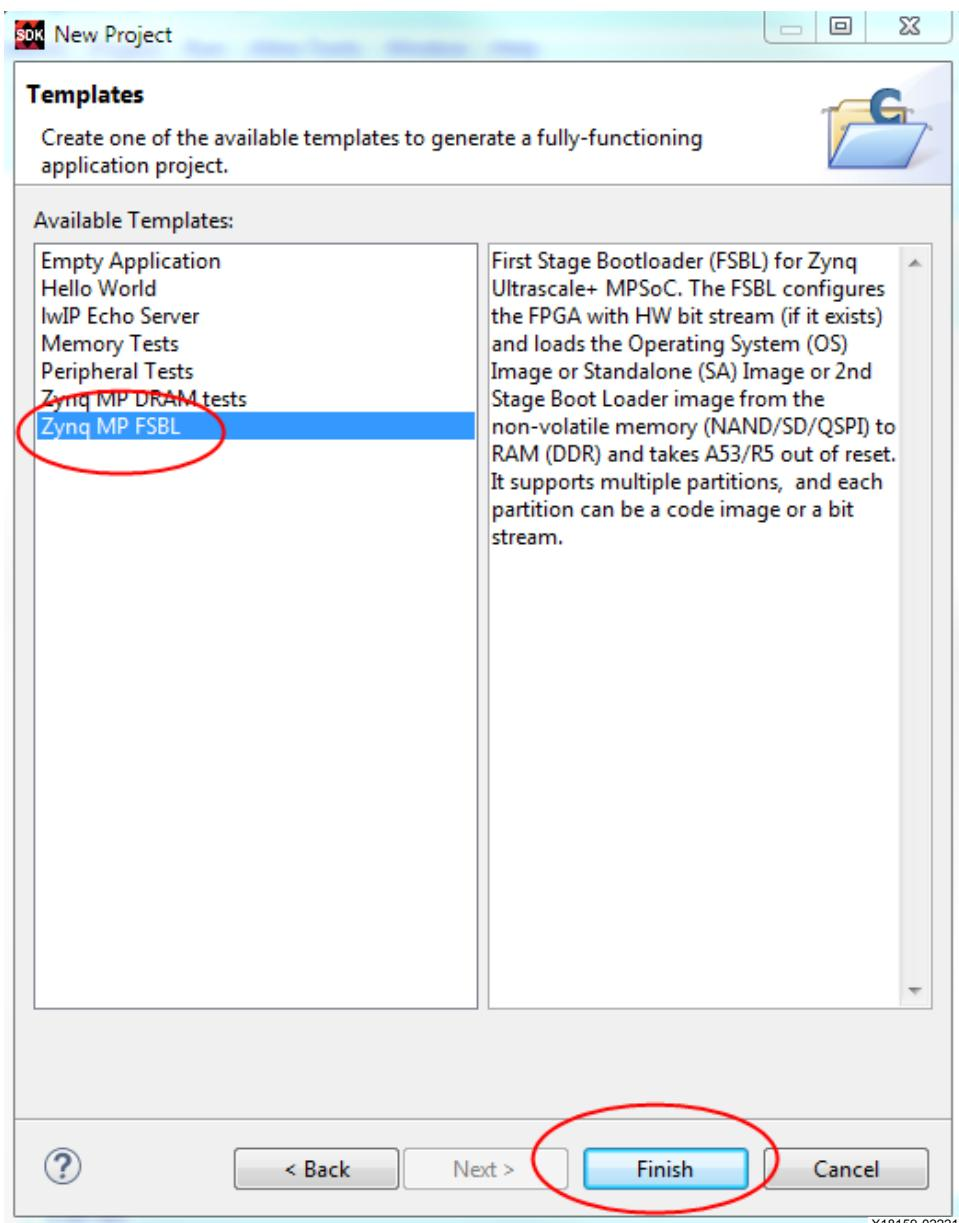

Figure 13: Zynq MP FSBL Template
- b. Select **Zynq MP FSBL**. Click **Finish**. See Figure 13.